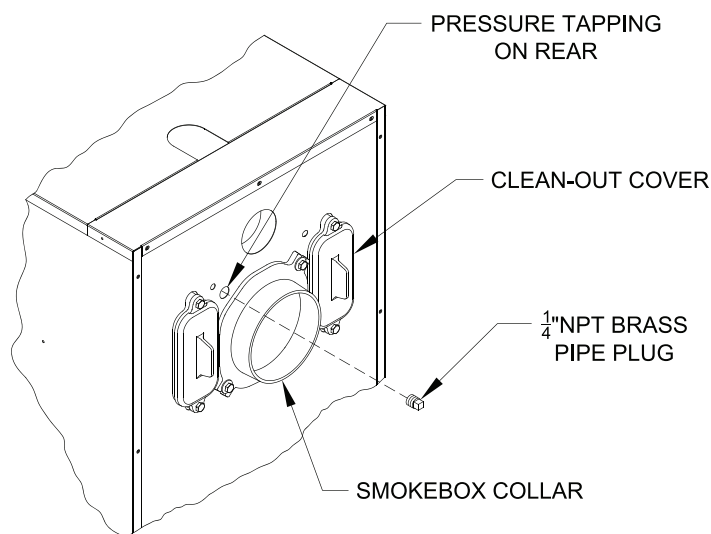

Figure 15: Smokebox Pressure Tapping for Checking Draft at Breech
NOTE: Secure chimney connector to cast iron smokebox collar with three (3) #10 x 1/2" self drilling hex head TEK screws provided in miscellaneous parts carton. Locate screws around perimeter of connector as shown in Figure 15 and approximately 1/2" in from edge. Use drill with 5/16" hex bit to drive screws through connector and smokebox collar.
2. Minimum Draft at Breech (Canopy) – The draft induced by a chimney must create at least a pressure of 0 (zero) inches water column (" w.c.) at the pressure tapping on the canopy mounted on rear of boiler (see Figure 15). The pressure at the canopy cannot be positive since this could create a condition that allows flue gas by-products to escape from the draft regulator (not supplied). A negative pressure reading up to -.03 inches water column is acceptable for proper operation. (See Tables 17, 18 and 19 Burner Specifications at the rear of this manual for more details)